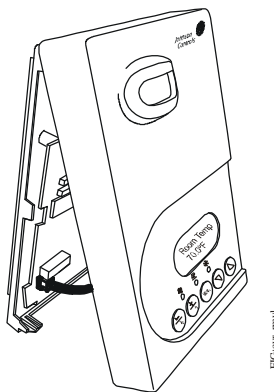

Figure 1: Removing the Thermostat Controller Cover (TEC2601-4+PIR Model Shown)
2. Pull the bottom edge of the thermostat controller cover and open the thermostat controller as illustrated in Figure 1.